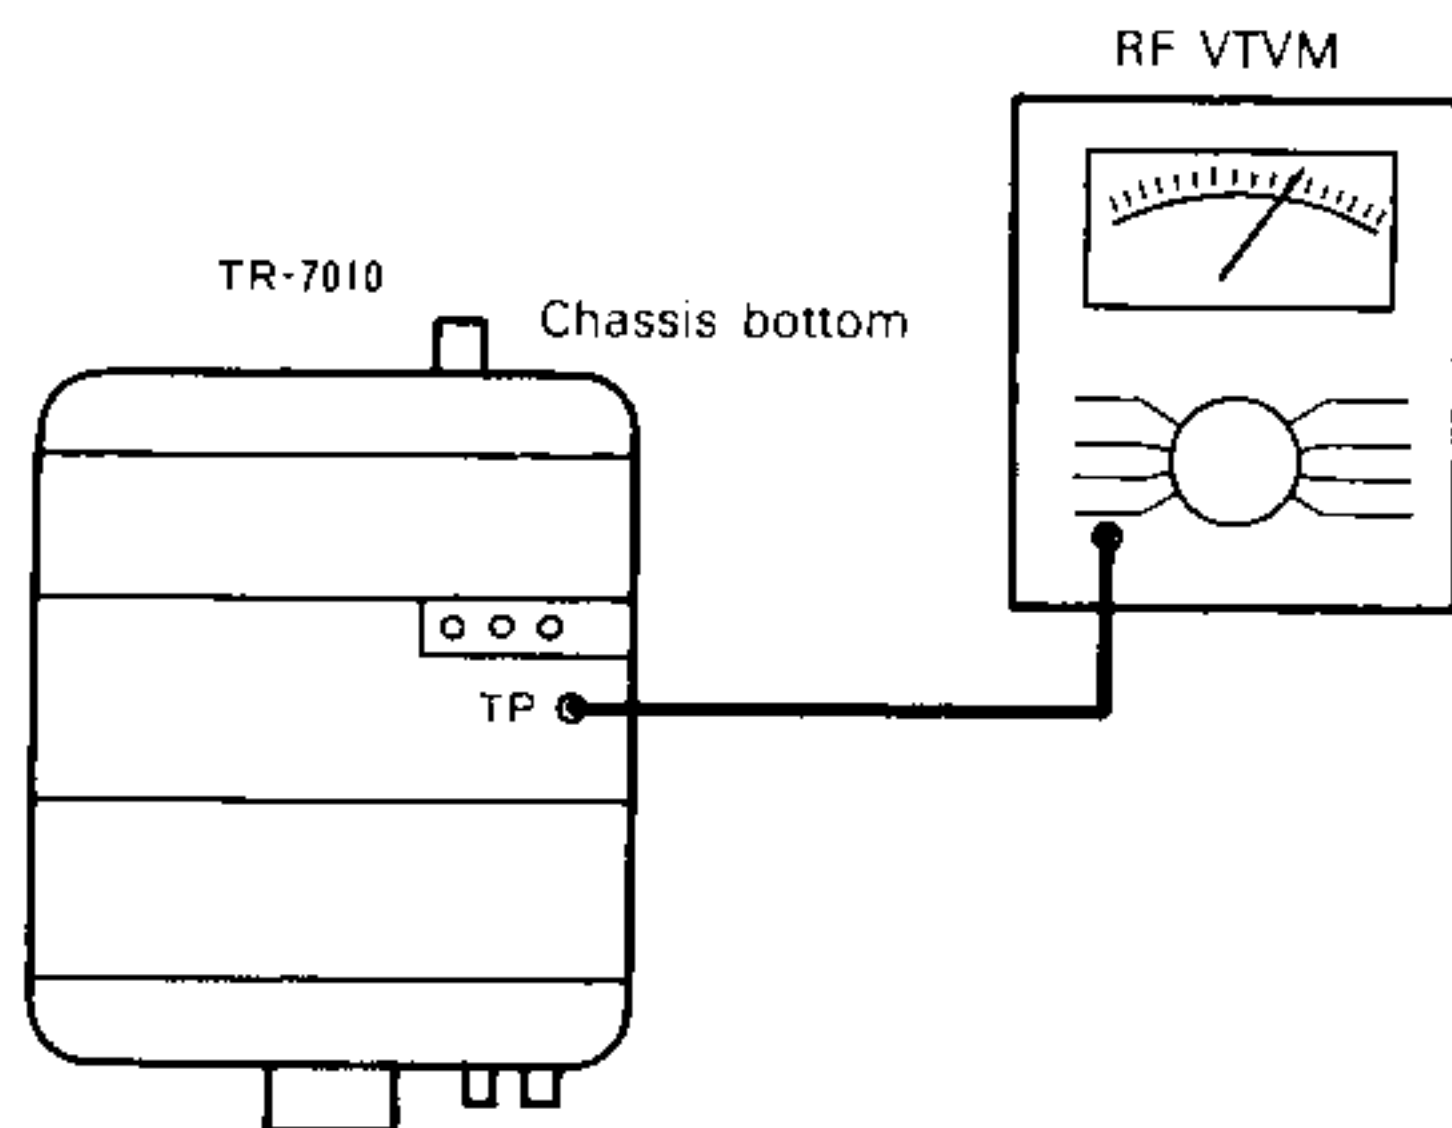
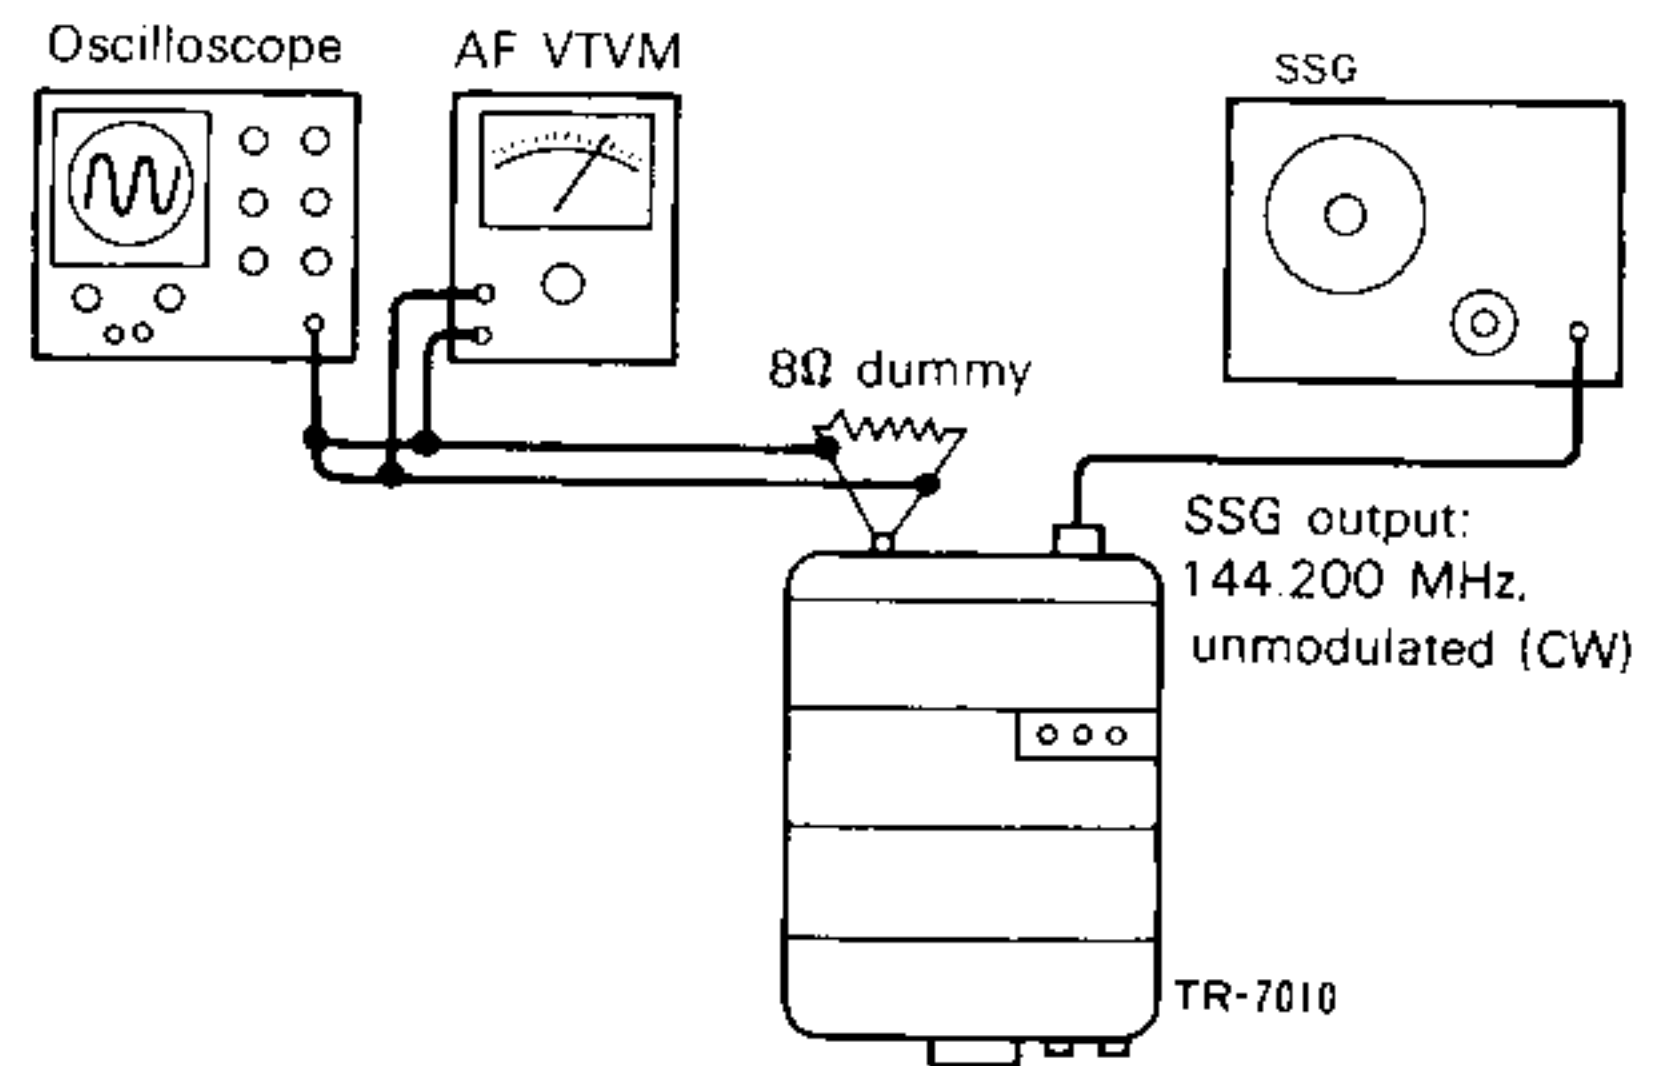
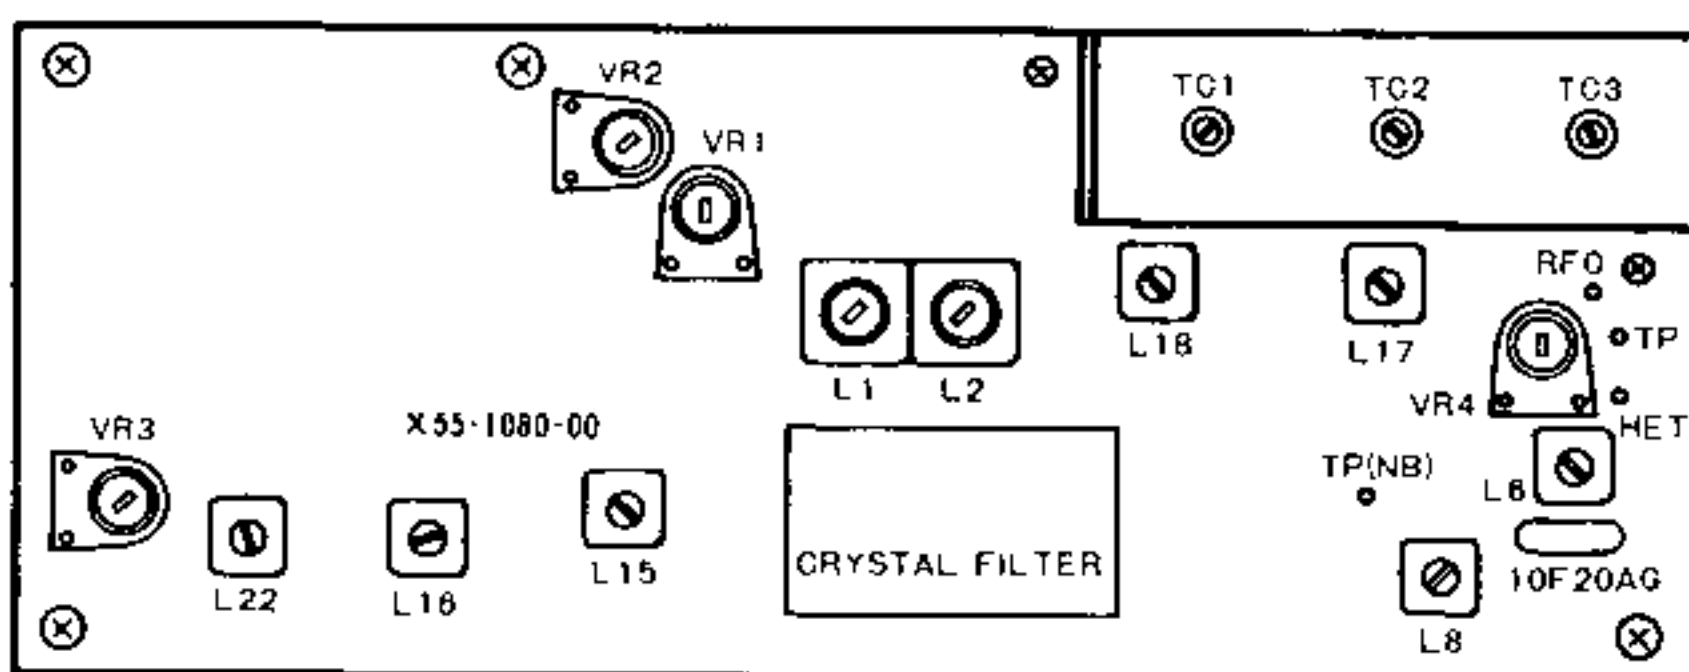

FIG. 14 RX, HET VOLTAGE SETTING
FIG. 16 RECEIVE SENSITIVITY ADJUSTMENT
FIG. 15 RX UNIT
- (1) Disconnect all the measuring instruments. Set the channel indicator to "00" and the BAND switch to 144.2MHz.
- (2) Connect RF VTVM to the TP terminal on the RX unit (see Fig. 14 and Fig. 15).
- (3) Adjust VR4 on the RX unit until the voltage reaches 0.3V.
- (1) Adjust VR2 on the RX unit (Fig. 15) until the S meter indicates the exact "0" position.
- (1) Connect the measuring instruments as shown in Fig. 16.
- (2) Using the input from SSG, tune in to about 144.200MHz and fine adjust VXO volume so that AF signal of about 1,000Hz is obtained on the oscilloscope.
- (3) Slowly decrease the input from SSG and obtain a maximum reading on AF VTVM by adjusting L1 → L2 → TC3 → L6 → L8 → L15 → L16 → L22 on the RX unit (Fig. 15). This adjustment should be repeated several times.
- (4) With the SSG input set to the minimum sensitivity (0dB), precisely adjust TC3 for maximum reading on AF VTVM.